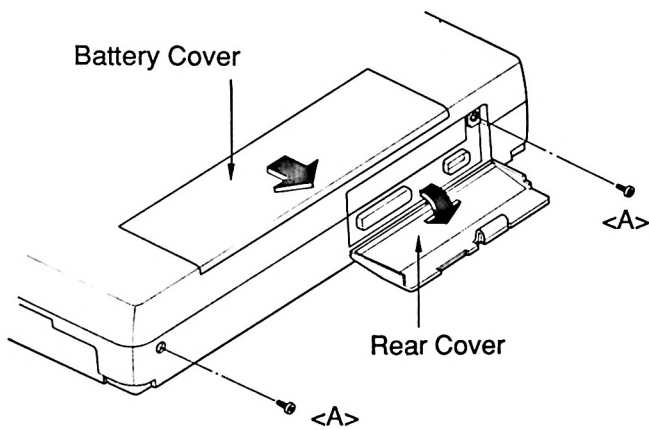

Figure 4
(7) Open the rear cover and remove two screws <A> ($3\text{Ø}\times 8$) as shown in Figure 4.